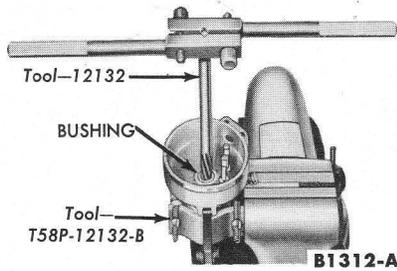

FIG. 9—Burnishing Bushing
2. Burnish the bushing to the proper size (Fig. 9).